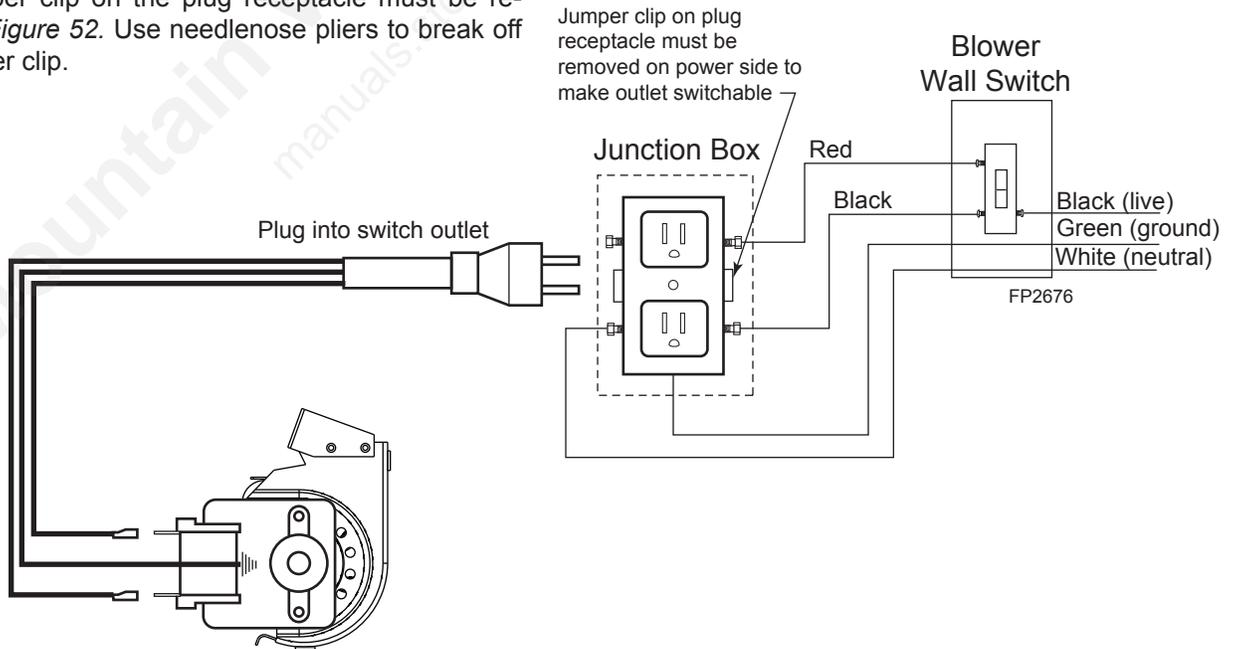

Figure 52 - FK-12 Blower wiring Diagram
3. The jumper clip on the plug receptacle must be removed. *Figure 52.* Use needlenose pliers to break off the jumper clip.